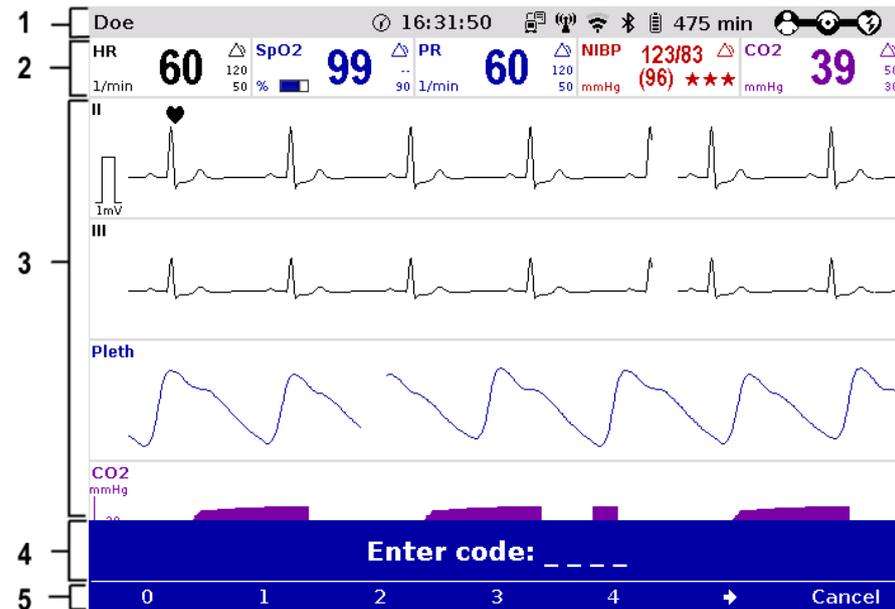

Fig. 4-2 Monitoring unit, example of basic structure of the screen pages
The following data are displayed in the status-/alarm line (Fig. 4-2, item 1):
Parameter area The measured parameters and the configured alarm limits are displayed in the parameter area (Fig. 4-2, item 2) of the display.
Curve and display area Up to 6 curves of measured values of monitoring functions can be displayed in the curve and display area (Fig. 4-2, item 3) of the display.
Message line In the message line (Fig. 4-2, item 4) of the screen, additional interactions with the user interface are displayed, e. g. to enter the PIN code for the OPERATOR user level or to enter patient data.
Softkey line The current function assignment of the softkeys is displayed in the softkey line (Fig. 4-2, item 5).